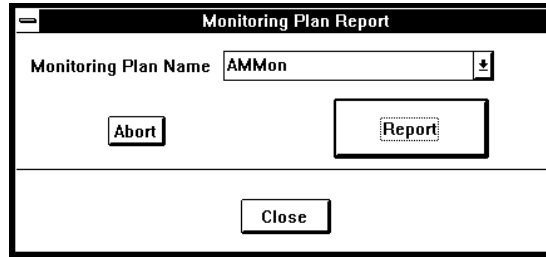

Figure 8-22: Monitoring Plan Report Dialog Box
1. Select **Monitoring Plan. . .** from the **Reports List** to open the **Monitoring Plan Report** dialog box (Figure 8-22).